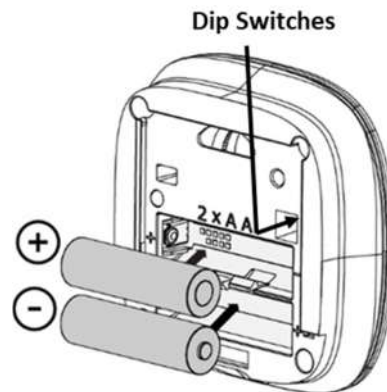

Figure 3
5. Place the 2 batteries as instructed in figure 3 and wait until the red/green LED stops blinking.